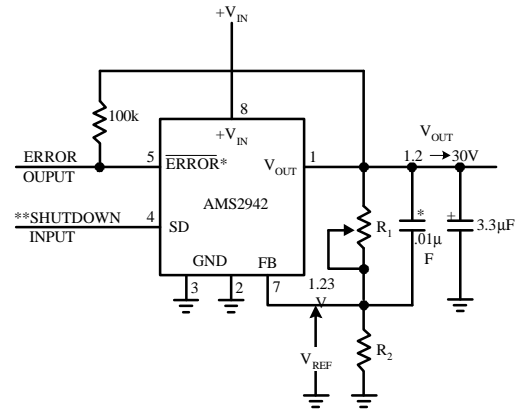

FIGURE 2. Adjustable Regulator
The AMS2942 it may be programmed for any output voltage between its 1.235V reference and its 42V maximum rating. As seen in Figure 2, an external pair of resistors is required. The complete equation for the output voltage is:
*When V_{IN} 1.3V the error flag pin becomes a high impedance, and the error flag voltage rises to its pull-up voltage. Using V_{out} as the pull-up voltage (see Figure 2), rather than an external 5V source, will keep the error flag voltage under 1.2V (typ.) in this condition. The user may wish to drive down the error flag voltage using equal value resistors (10 k suggested), to ensure a low-level logic signal during any fault condition, while still allowing a valid high logic level during normal operation.